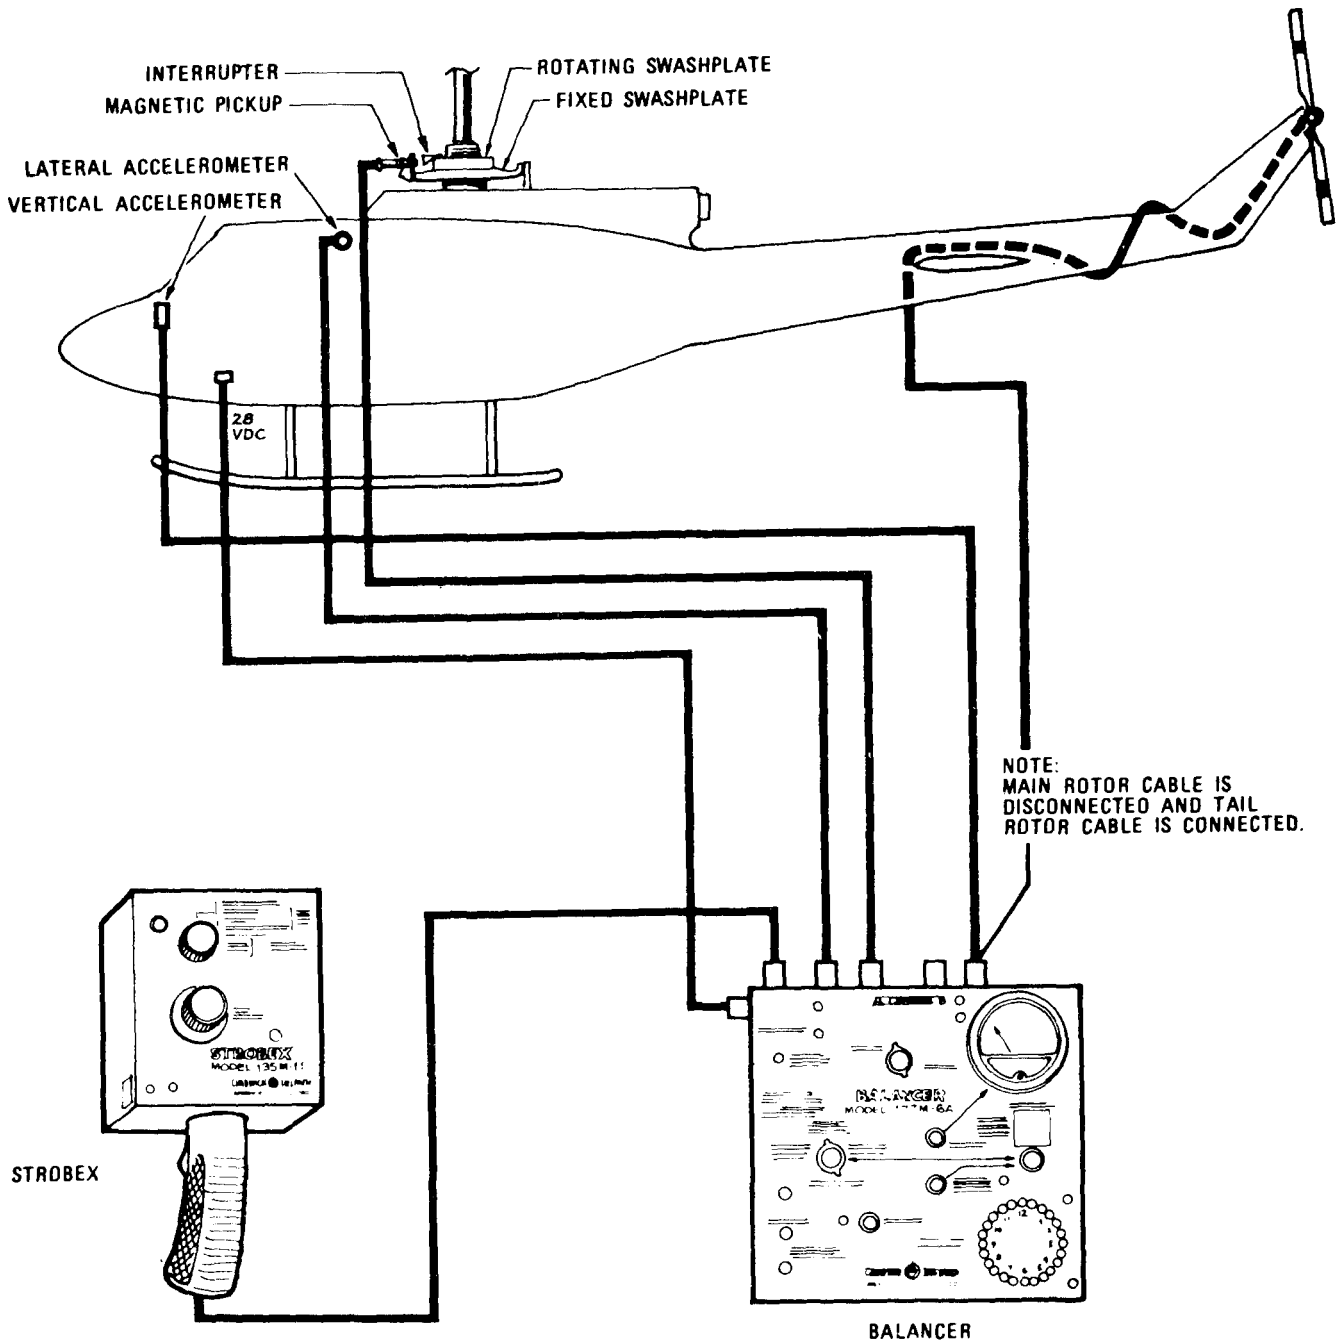

Figure 3-7. Typical VIBREX to Airframe Interface
**3-9. General.** Detailed installation instructions for the following VIBREX accessories are illustrated and explained in applicable aircraft technical manuals. Checklists are also provided with the VIBREX for each type aircraft. Figure 3-7 illustrates a typical VIBREX to airframe interface.
- (1) Magnetic Pickup is installed on the fixed swash-plate.
- (2) Interrupter is installed on the rotating swash-plate.